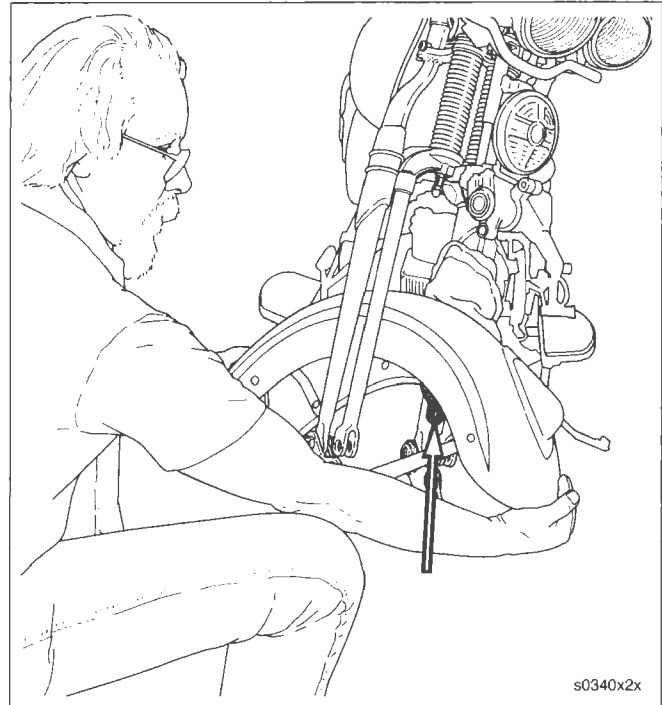

Figure 2-126. FLSTSC Front Fender Bracket
- a. See Figure 2-126. Slide fender down until mounting bracket is just in front of the rigid fork leg.
- b. See Figure 2-126. Raise fender until fender holes are aligned with fork holes for axle.